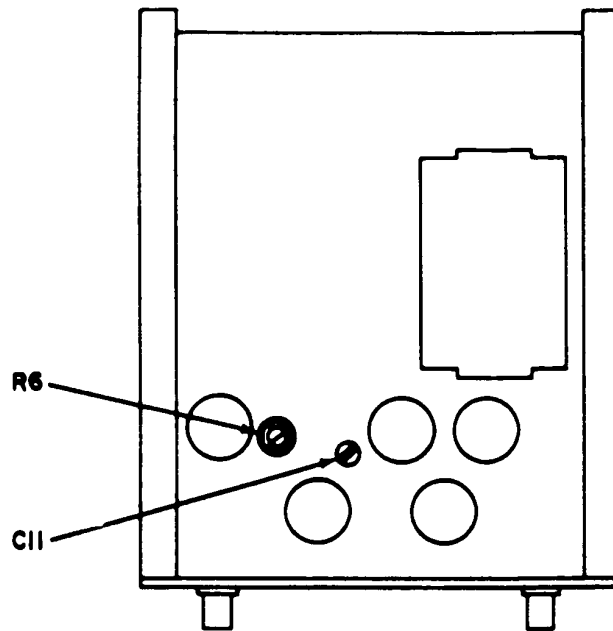

Figure 1. AM-1881/U and Models 450A and 450AR.
(1) Adjust R6 (fig. 1) for a 10-V indication on ac/dc voltmeter (R).
(1) Adjust C11 (fig. 1) for an in-tolerance indication (R).
(2) Adjust oscillator output to minimum and repeat **a(2)** through (7) above.